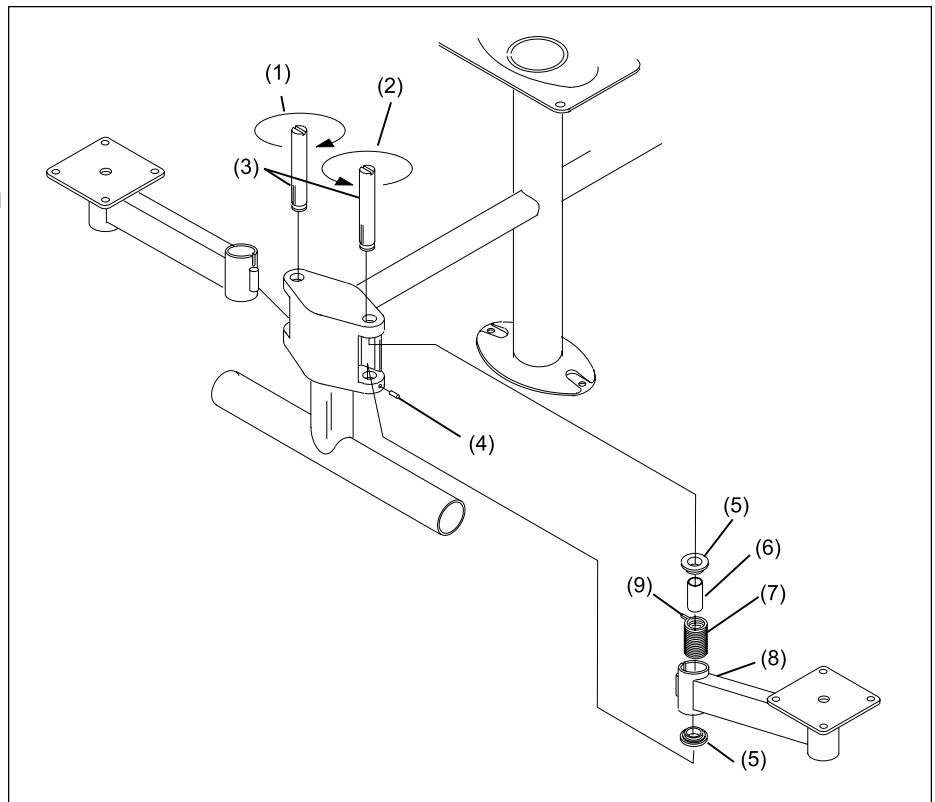

Figure 33. Swivel Seat Arm Spring Replacement
1. Loosen set screw securing the pivot shaft on the table weldment. Refer to *Figure 33* for view of components.
4. Using screwdriver(s), remove the top and bottom plastic swivel bearings from seat arm (*Figure 33*).